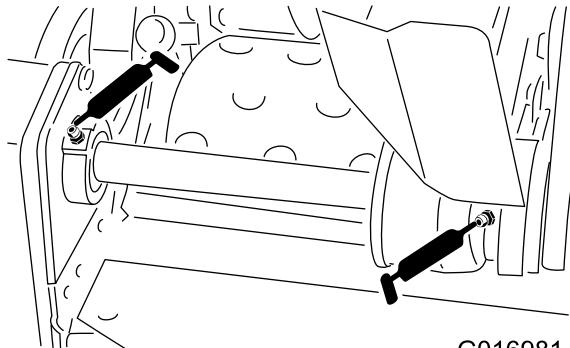

Figure 23
- 2 on the reel countershaft bearings (Figure 23)